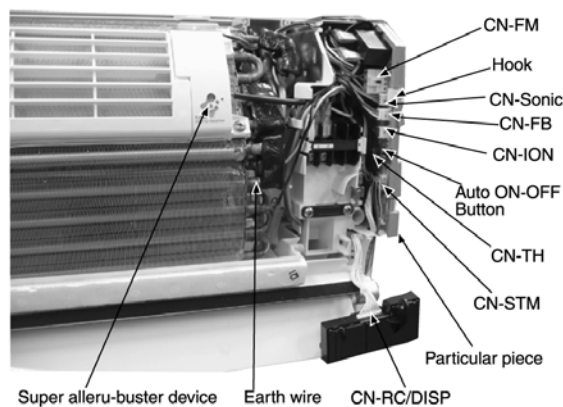

Fig. 4
- Release CN-FM connectors. (Fig. 4)
- Release CN-Sonic connector. (Fig. 4)
- Release CN-FB connector. (Fig. 4)
- Release CN-ION connector. (Fig. 4)
- Release CN-TH connector. (Fig. 4)
- Release CN-STM connector. (Fig. 4)
- Release CN-REC/DISP connector. (Fig. 4)